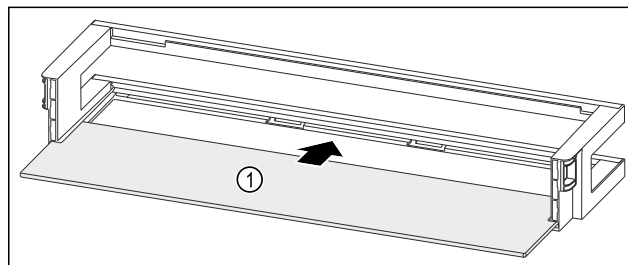

Fig. 77 Door racks with shelf
- Push the shelf Fig. 77 (1) into the side cutouts.